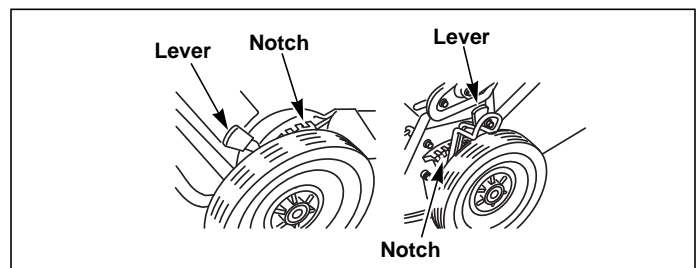
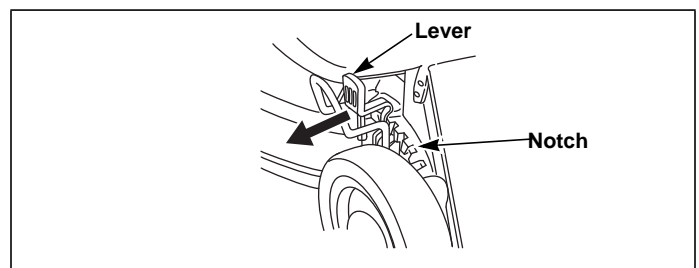

Fig. 4-30
Fig. 4-31
- Push the cutting height adjustment lever so that it clears the height setting notches. Fig. 4-30 and Fig. 4-31